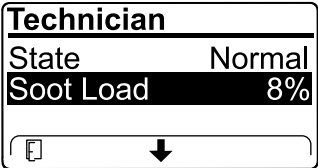

Figure 39
- View the soot load which is measured as the percentage of soot in the DPF (Figure 39); refer to the soot-load table.